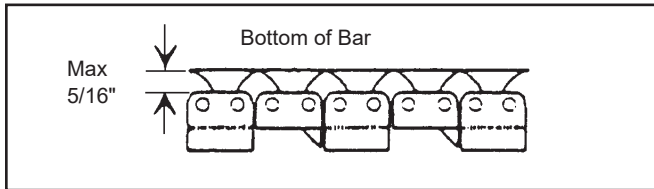

Figure 3. Maximum Chain Clearance
1. Make sure the chain does not exceed a clearance of 5/16 in./8 mm from the bar (see Figure 3). Exceeding